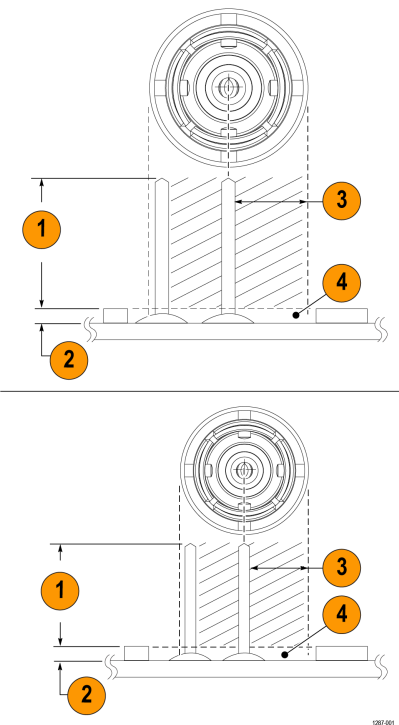

Figure 13: Adapter clearance requirements
The solder pins can be installed around a surface mounted component on the circuit board, but adequate clearance should be maintained for a good electrical connection for the adapter. Figure 13 on page 32
3. If necessary apply a small amount of adhesive to further strengthen the connection to the circuit board. However, keep the height of the adhesive to a minimum to provide good electrical contact for the adapter. Figure 13 on page 32